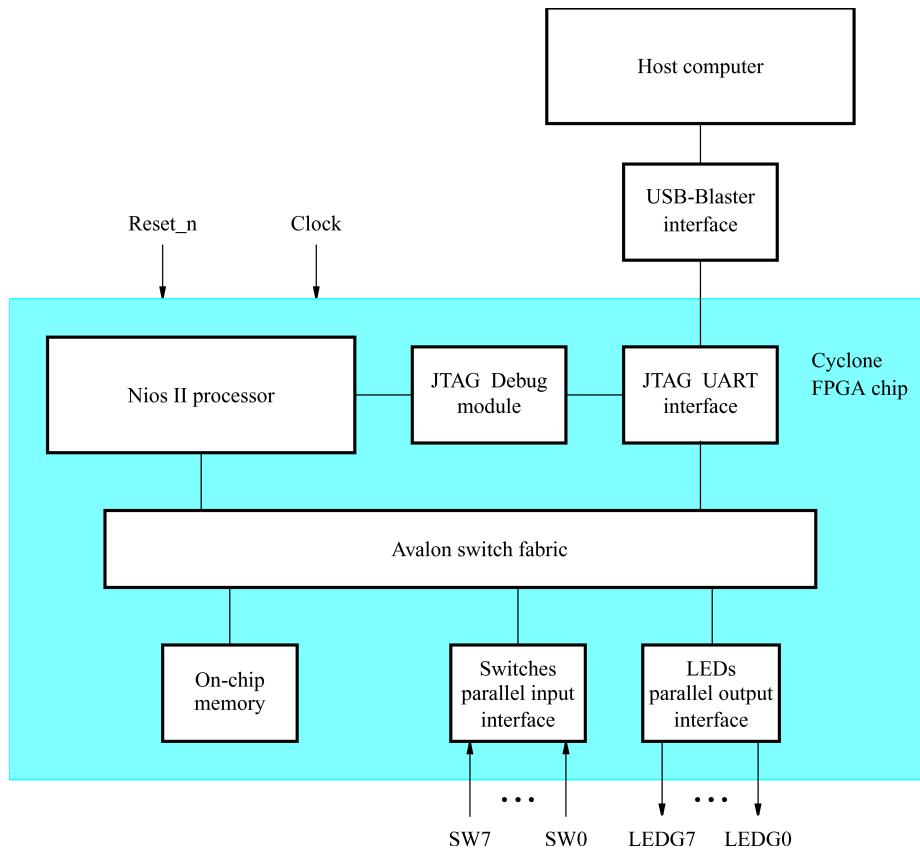
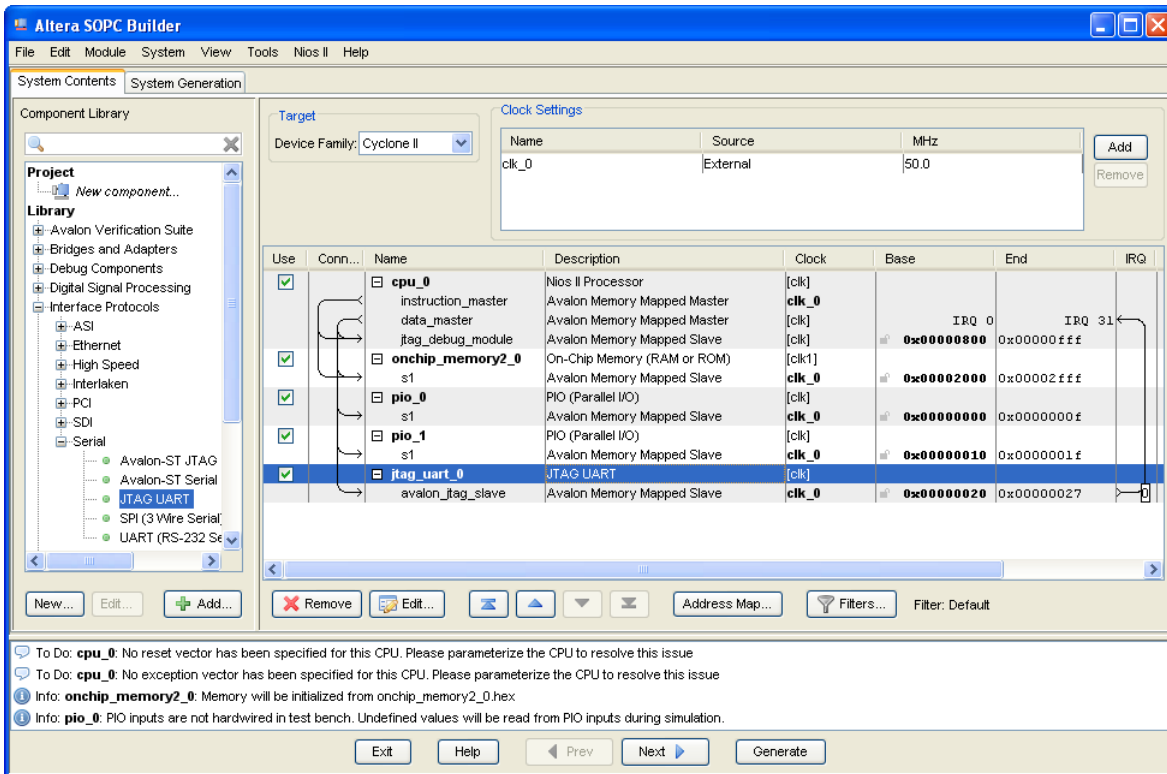

Figure 2. A simple example of a Nios II system.
Figure 13. The complete system on a DE-series board.
Our example system is given in Figure 2. The system realizes a trivial task. Eight toggle switches on the DE-series board, *SW7–0*, are used to turn on or off the eight green LEDs, *LEDG7–0*. The switches are connected to the Nios II system by means of a parallel I/O interface configured to act as an input port. The LEDs are driven by the signals from another parallel I/O interface configured to act as an output port. To achieve the desired operation, the eight-bit pattern corresponding to the state of the switches has to be sent to the output port to activate the LEDs. This will be done by having the Nios II processor execute a program stored in the on-chip memory. Continuous operation is required, such that as the switches are toggled the lights change accordingly. Note that on a DE0-Nano board, there are only four dip switches. Therefore, if you have this board, use the four dip switches, *SW3–0*, and four LEDs, *LED3–0*.
We will use the SOPC Builder to design the hardware depicted in Figure 2. Next, we will assign the Cyclone-series pins to realize the connections between the parallel interfaces and the switches and LEDs which act as I/O devices. Then, we will configure the FPGA to implement the designed system. Finally, we will use the software tool called the *Altera Monitor Program* to assemble, download and execute a Nios II program that performs the desired task.
The SOPC Builder is a tool used in conjunction with the Quartus II CAD software. It allows the user to easily create a system based on the Nios II processor, by simply selecting the desired functional units and specifying their parameters. To implement the system in Figure 2, we have to instantiate the following functional units:
10. The complete system is depicted in Figure 13. Note that the SOPC Builder automatically chooses names for the various components. The names are not necessarily descriptive enough to be easily associated with the target design, but they can be changed. In Figure 2, we use the names Switches and LEDs for the parallel input and output interfaces, respectively. These names can be used in the implemented system. Right-click on the pio\_0 name and then select **Rename**. Change the name to Switches. Similarly, change pio\_1 to LEDs.